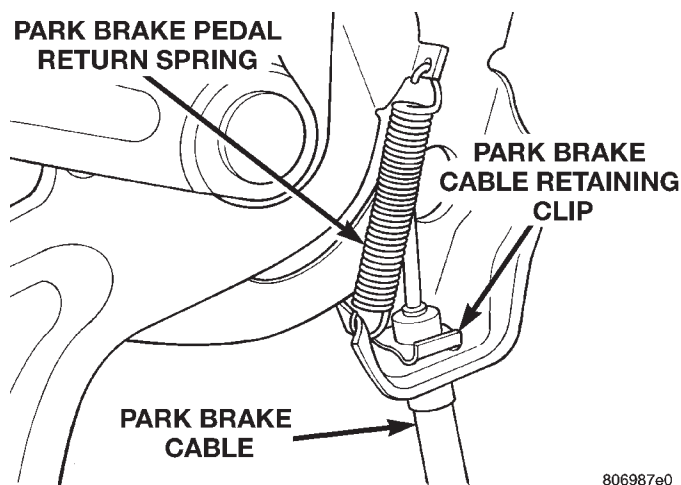

Fig. 104 Park Brake Cable Installed In Mechanism
(3) Install park brake cable to park brake pedal mechanism retaining clip (Fig. 104). Be sure retaining clip is fully installed on park brake cable.